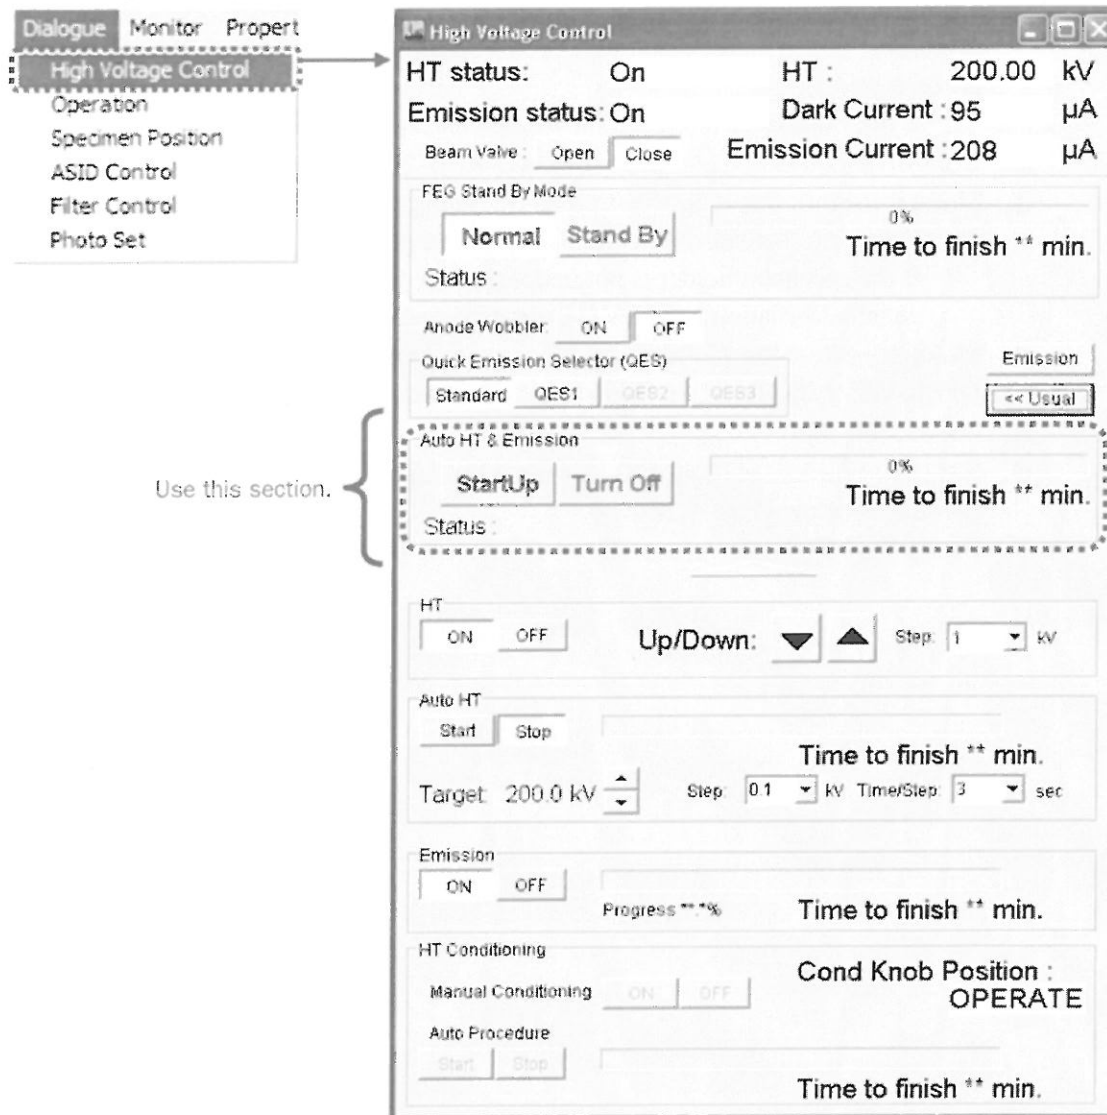

Fig. 5.16 High Voltage Control window
High Voltage Control window is used (Fig. 5.16).
- ✎ If the difference between the specified value is 20 μA or more, contact your nearest JEOL service center. Clicking **Emission** will display the electron gun power supply value (Fig. 5.16). Additionally, do not change the power supply value until you are instructed by JEOL service office.